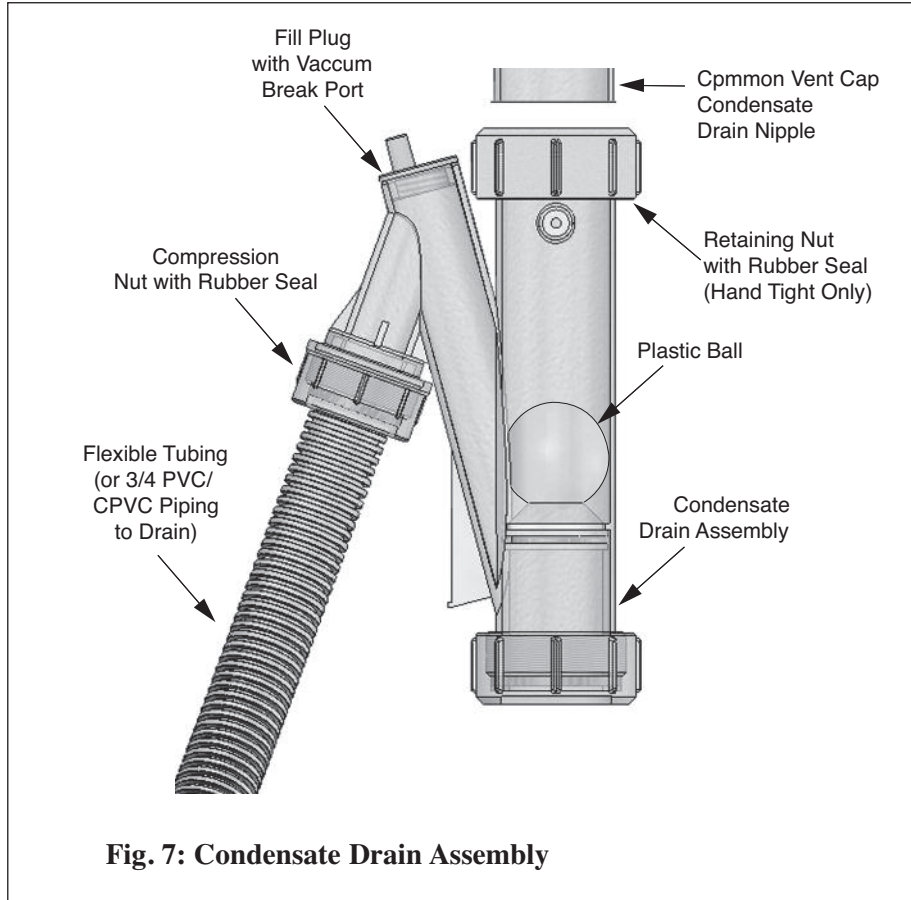

Fig. 7: Condensate Drain Assembly
1. Locate the condensate drain assembly and install as shown in Fig. 7 page 10 .